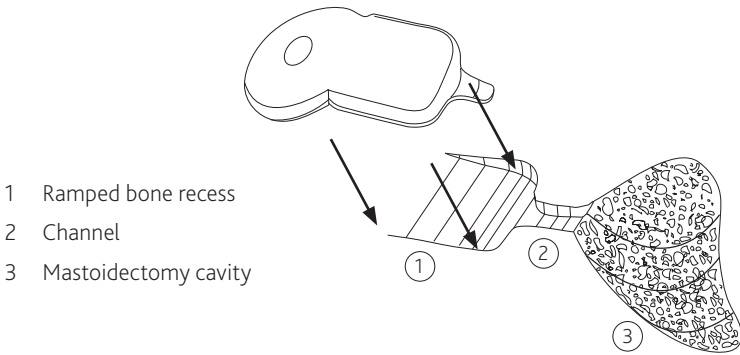

Figure 7: Ramped bone recess, electrode channel and mastoidectomy
5. Drill a channel to connect the bone recess and mastoid cavity – see Figure 7. The channel will help protect the electrode against trauma.